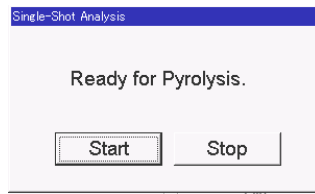

Fig. 4.12 Starting Pyrolysis in Double-Shot Analysis
10. A dialog box shown in Fig. 4.12 will be displayed when GC oven temperature cools down to the initial temperature and GC issues a ready signal. Immediately after manually pressing the sample drop button of the Pyrolyzer, click “START” button of the dialog box or hit “ENTER” of the keyboard.